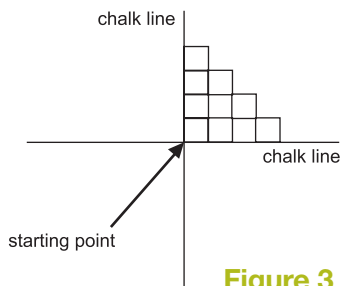

Figure 3
- Installation must begin at the intersection of two chalk lines. Installation must continue until completed in one quadrant, then proceed to an adjoining quadrant until all four quadrants are completed. Larger areas may require chalk lines bisecting the original four quadrants. **See Figure 3**
- Install modules using the pyramid technique. This allows multiple alignment checks. If the edges do not align and the misalignment increases with progression of the installation, the source of the problem must be identified and corrected. **See Figure 3**